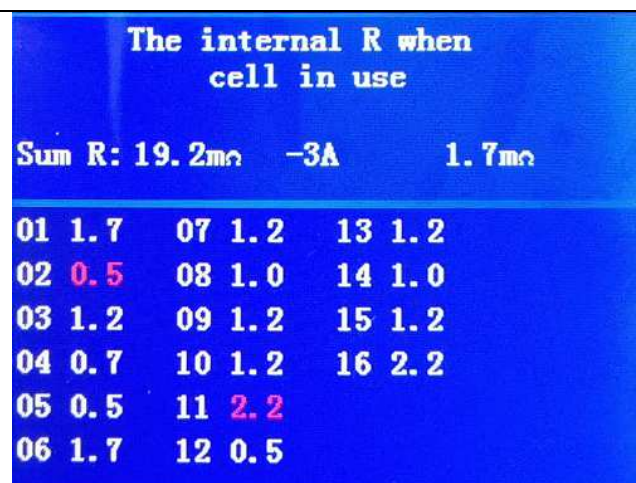

figure 3
7. When charge or discharge, BMS will measure each cell internal resistance. See above figure 3.